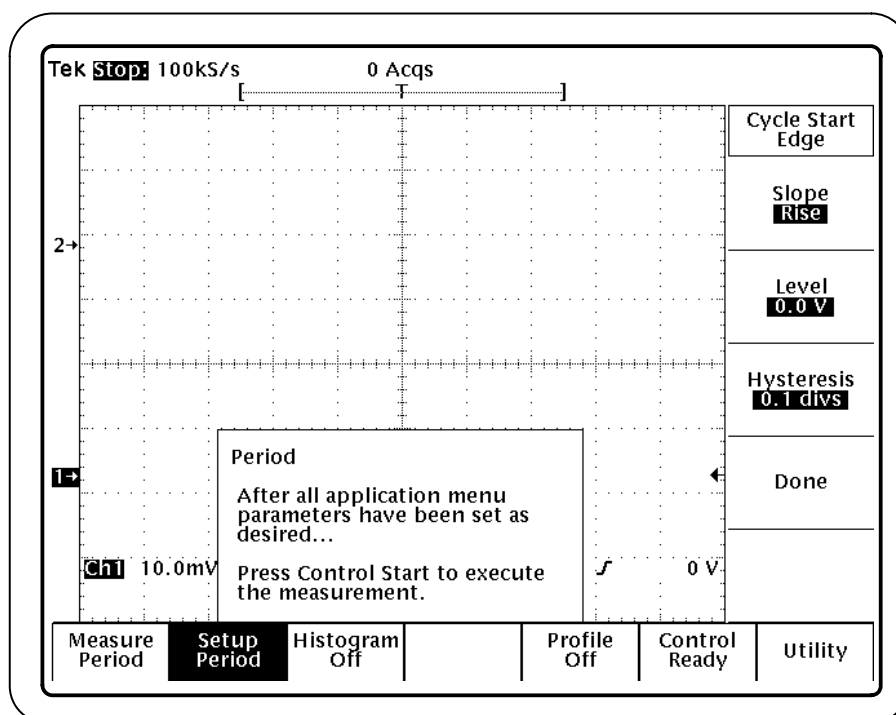

Figure 18: Cycle Start Edge menu
4. Press Cycle Start Edge (side) and specify the slope, level, and hysteresis to define where to start and stop the measurement of each period. See Figure 18.